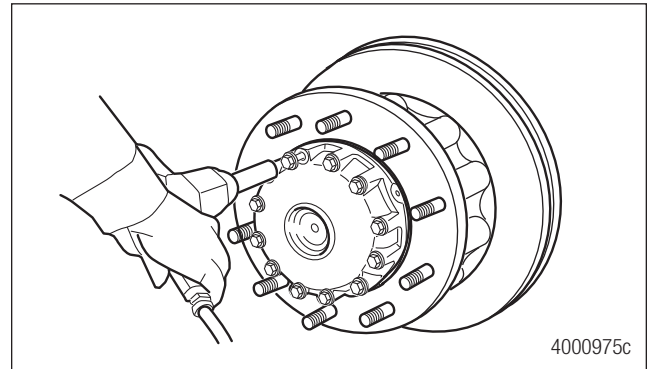

Figure 6.1
7. Remove the hubcap capscrews. Figure 6.1.